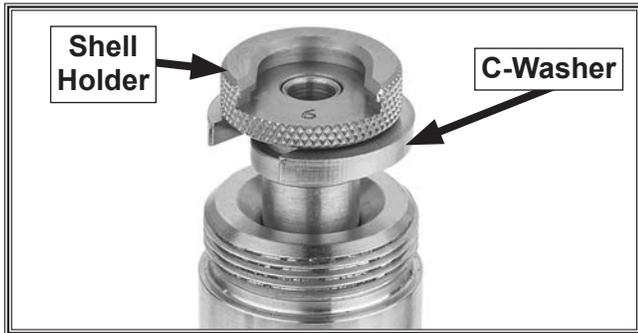

Figure 3. Shell holder installed.
- Slide C-washer into center groove of Redding® shell holder for desired caliber, and place shell holder on top of sleeve (see **Figure 3**).